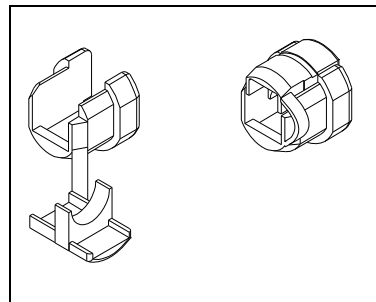
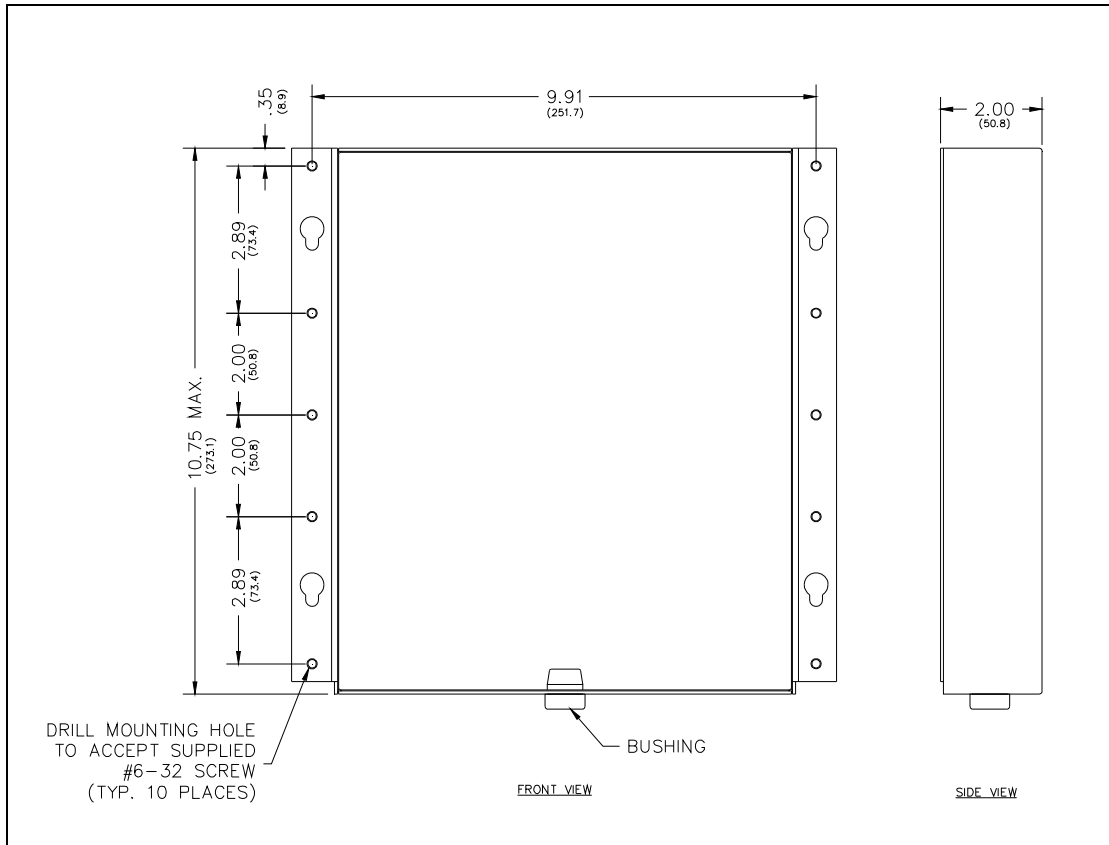
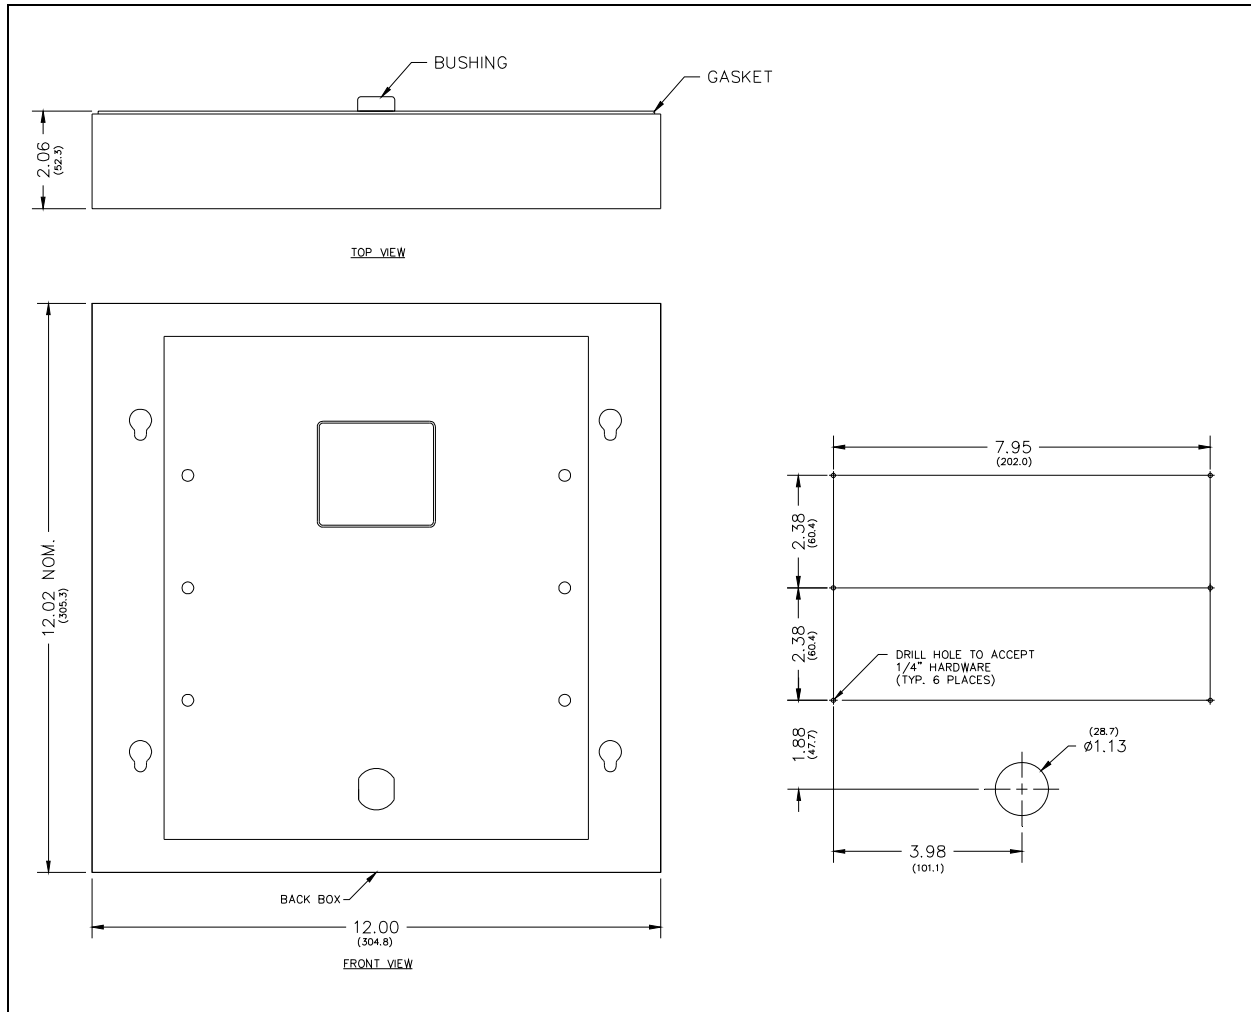

Figure 3. Bushing
Figure 6. Back Box for Model 295-001F
Figure 8. Mounting the Model 295-001W
4. Place the bushing around the field telephone line and the power cable line approximately 6–8 inches from the end of the cable. Snap the bushing closed and insert into double “D” hole in the bottom of the back box. See Figure 3 and Figure 6.
5. Place the back bracket in the wall. Locate the mounting holes. Refer to Figure 6.
3. Using the back box as a template, drill holes in the lower right and upper left corners of the mounting surface and secure the back box with screws. Drill the holes in the pattern shown in Figure 8.
4. Place the bushing around the field telephone line and power cable approximately 8 inches from the end of the cable. Snap the bushing closed and insert into the “D” hole in the back of the back box. See Figure 3 and Figure 8.